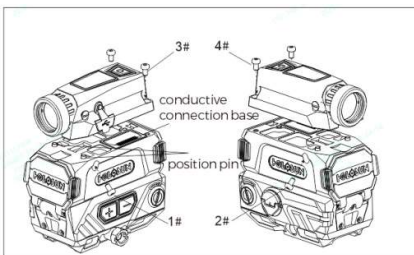

Figure 12
3. Replace the camera seating it properly according to the locating pins. Then press the camera and lower housing together, especially the conductive connection base, as vertically and tightly as possible to maintain pressure between the camera and the lower housing. Use a T10 tool to reinstall the four screws. It is recommended to install in this sequence: #4 ->#3 ->#2 ->#1. Lastly, tighten the screws in a crisscross pattern to 15 inch/lbs, keeping the gap between the camera and the body consistent as you tighten the screws. (As shown in Figure 12)